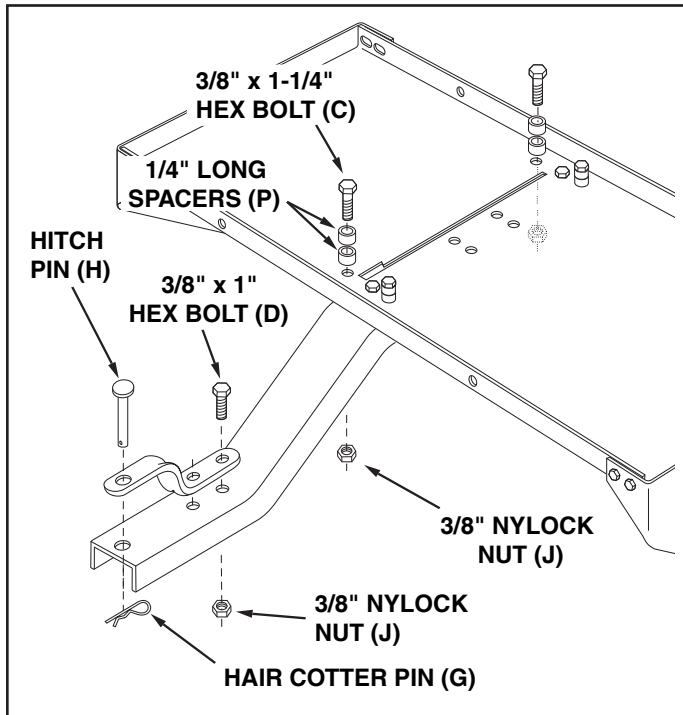

FIGURE 8
11. Assemble two 3/8" x 1-1/4" hex bolts, four 1/4" long spacers, and two 3/8" nylock nuts to the holes on the right side of the slot in the tray. **Tighten.** See figure 8.
12. Assemble the hitch bracket to the tongue using two 3/8" x 1" hex bolts, and two 3/8" nylock nuts. **Tighten.** See figure 8.
13. Assemble the hitch pin through the hitch bracket and the tongue. Secure the hitch pin with the hair cotter pin. See figure 8.